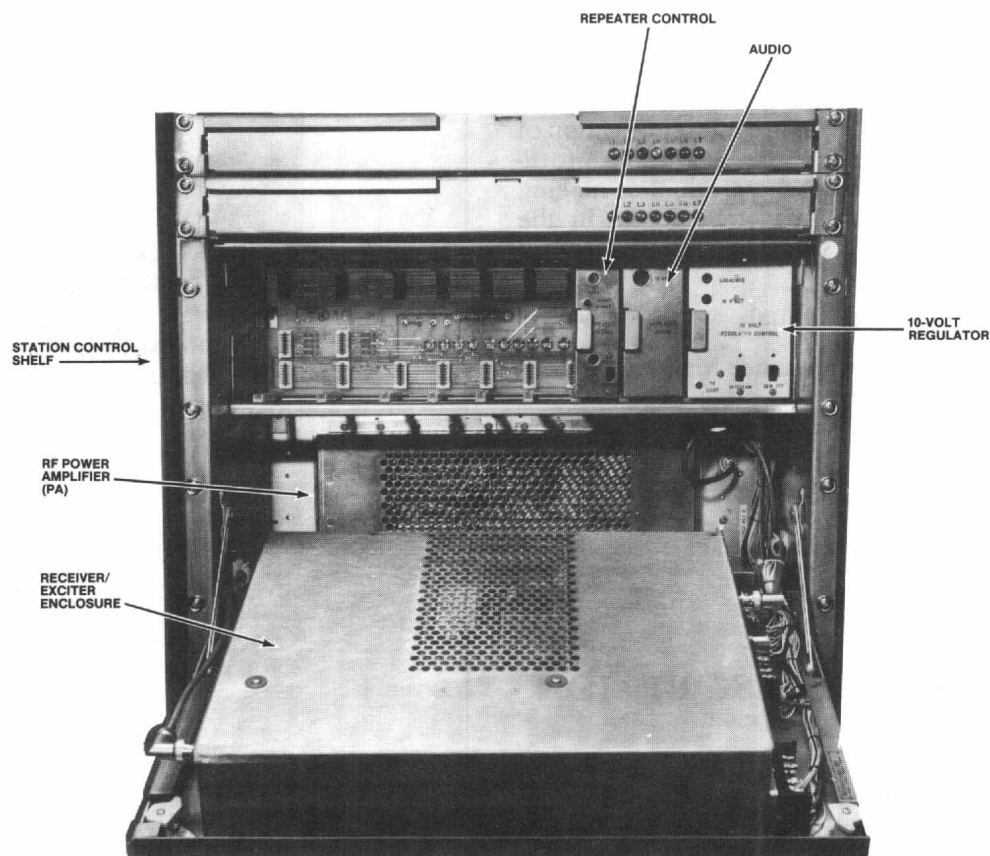
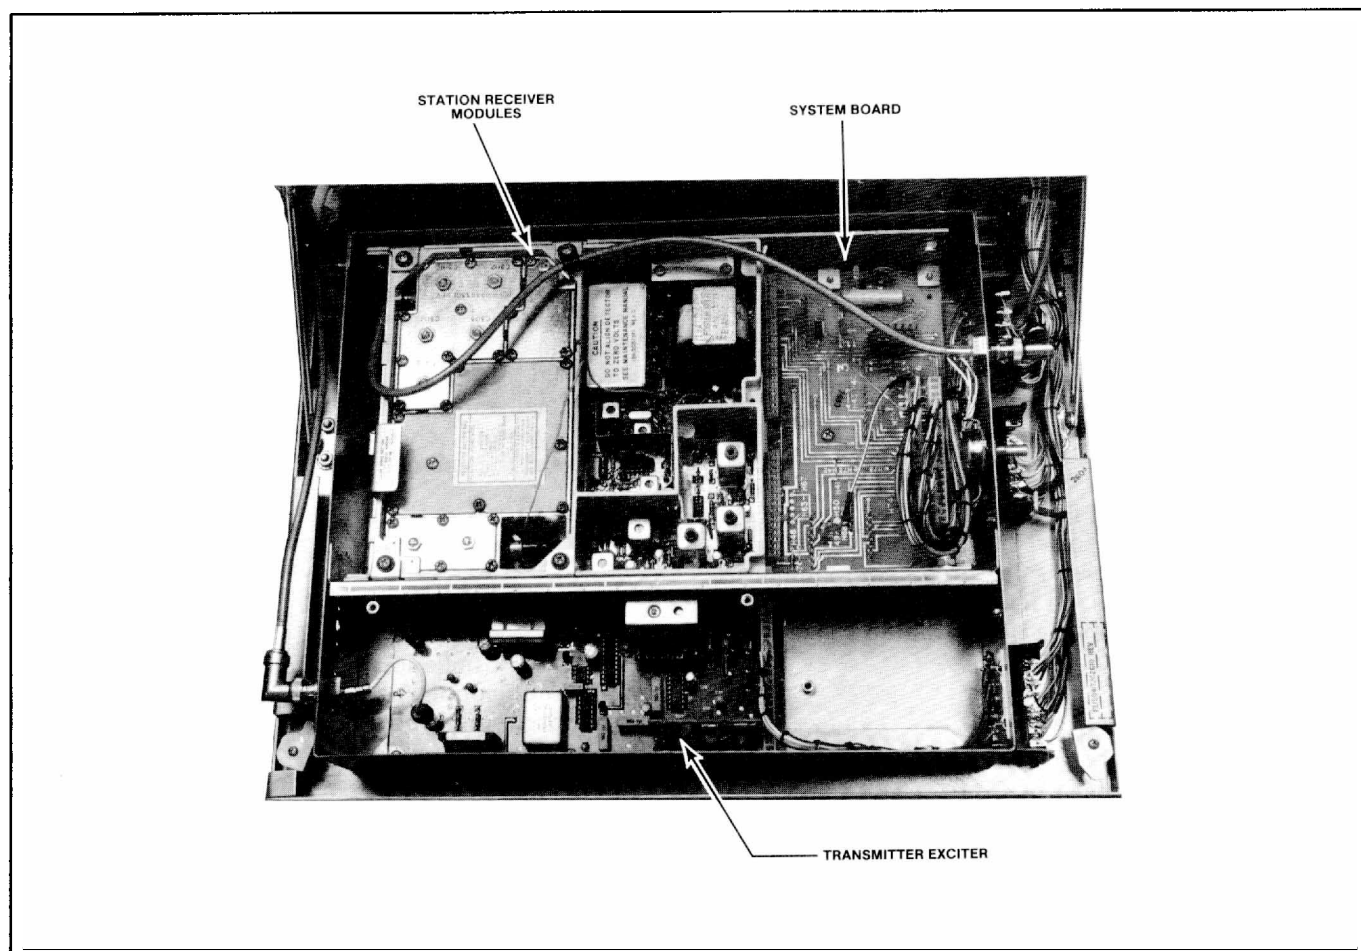

Figure 2 - Typical Radio Housing (800 MHz Shown)
Figure 3 - Station Receiver and Exciter
The station transmitter exciter is located in a shielded compartment in the radio housing front door (see Figure 2), along with the station receiver and system board (see Figure 3). The system board accommodates the optional Channel Guard board. Jacks are provided on the system board to interface with options and control functions.
The power amplifier (PA) hinges from the bottom of the radio housing. The PA consists of a frame mounted to a heat sink. A cover snaps into the frame to form an RF tight enclosure for the PA board assembly (see Figure 2).